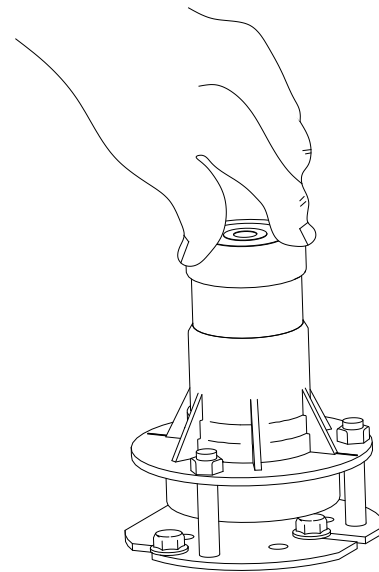

Figure 5-10
2. Result: Replace the slider when it shows wear measuring more than 3 mm [0.11 in.] (the measured distance L is less than 37 mm [1.46 in.]). See Fig 5-10 , page 5-19